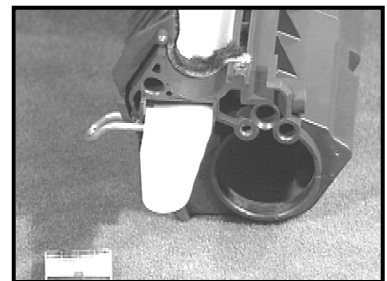

Figure 12
- b. To apply an Oasis seal **PN:AXSL10**, remove the seal backing and align it against the edges of the hopper (fig. 11). Then fold the pull-end of the seal back and through the opening (fig. 12). Replace the rubber plug.